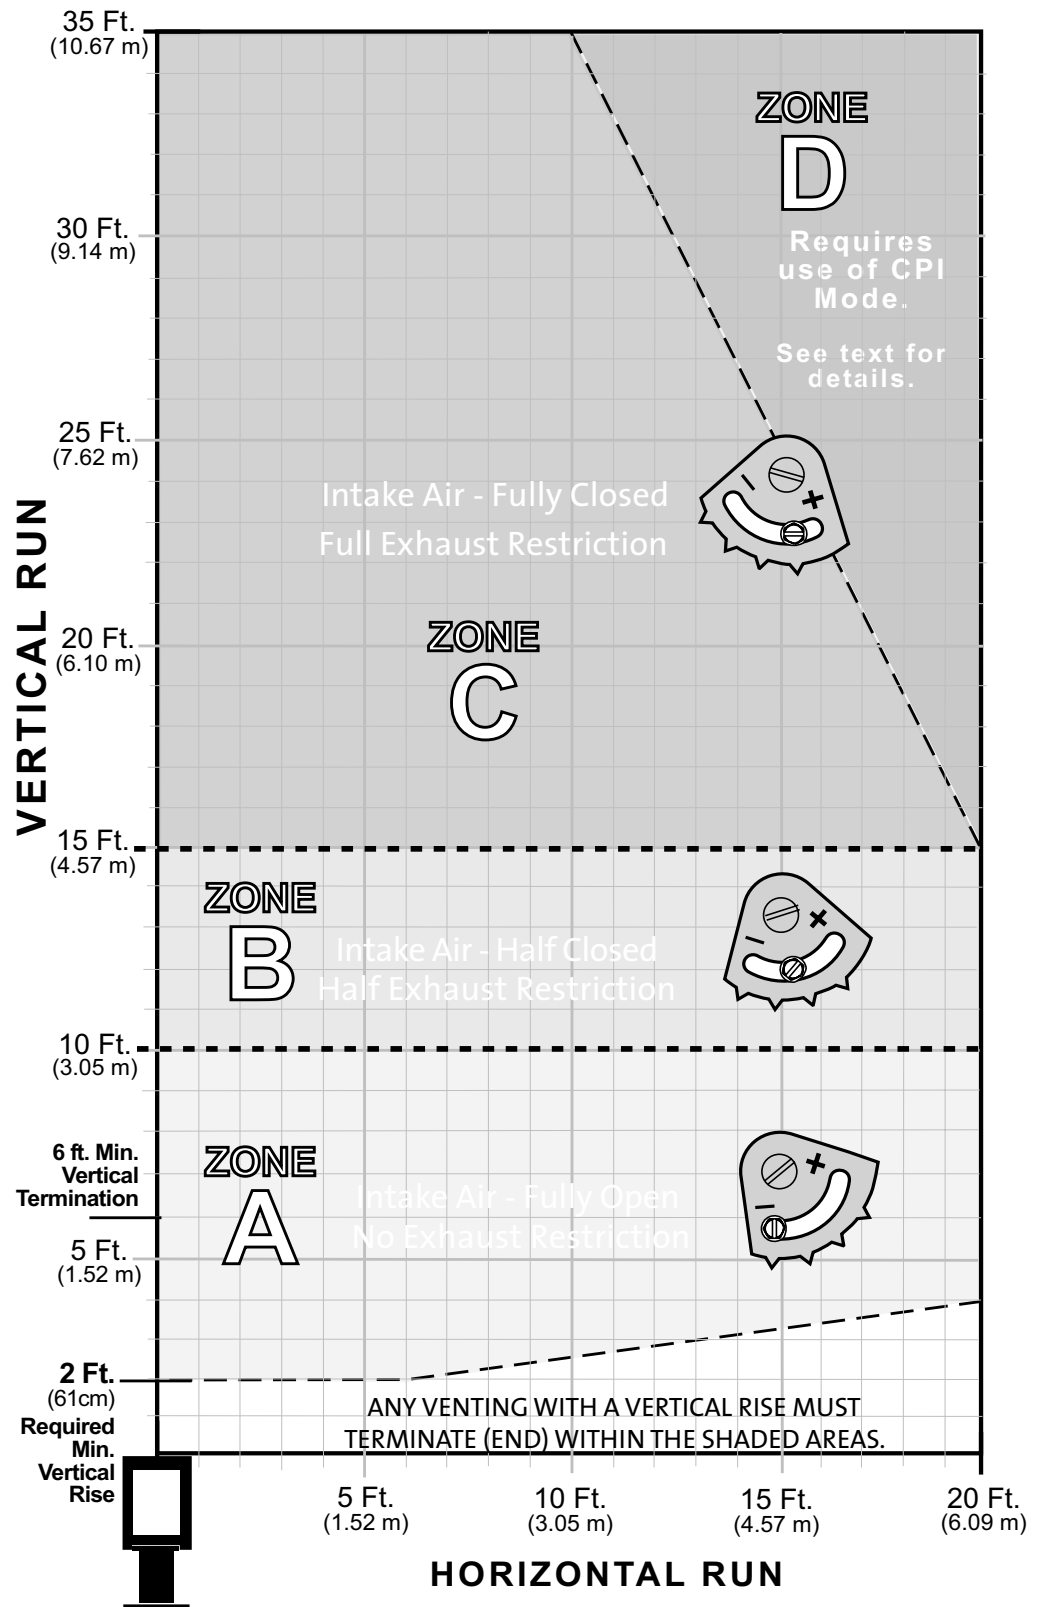

Figure 17. Vent Termination Diagram.
1. **Use the restrictor zone guidelines in the Vent Window Diagram, fig. 17.** In masonry chimney, a fireclay liner or listed steel liner, must be contained within the entire length of the chimney.
Use the Vent Termination Diagram, fig. 17, to determine which zone your vent termination falls within and make the appropriate exhaust and air intake setting adjustments. Use these settings as general guidelines to start from. The final settings will ultimately be determined by the individual characteristics of your particular installation. There are no hard and fast rules.
2. Loosen the locking screw and turn the restrictor pivot plate to the appropriate indicator point as specified in the vent window diagram, figure 17. After the burner has been operating for 15 minutes, make any further adjustment in 1/8" increments until the desired flame picture is achieved. **Do not exceed the fully closed setting as shown in fig. 15.** Operate the burner for 10-15 minutes between additional adjustments.